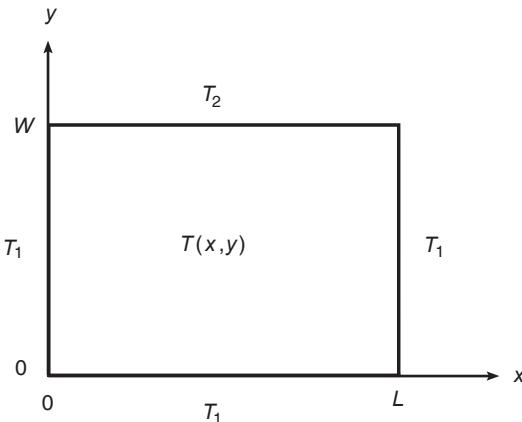

Figure P35
35. The following equation describes the temperature distribution in a rectangular metal plate. The temperature on three sides is held constant at T_1 , and at T_2 on the fourth side (see Figure P35). The temperature $T(x, y)$ as a function of the xy coordinates shown is given by